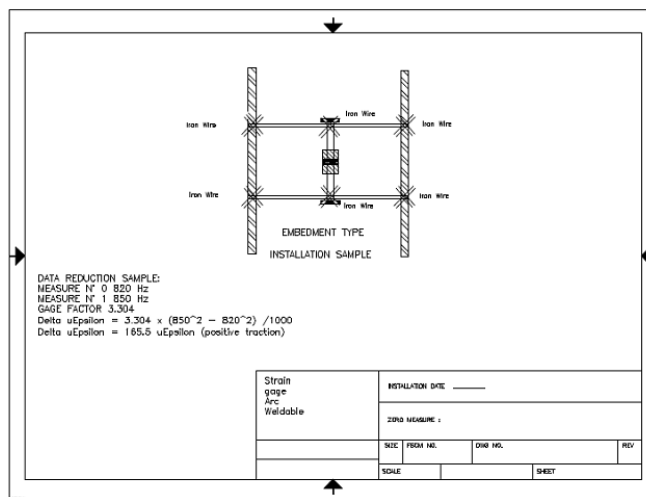

Fig.4 - Estensimetro da annegare (Embedment type) – Schema installazione
Vibrating wire embedment strain gauges are installed directly in the concrete mix, and care has to be taken to avoid applying large forces to the end blocks during installation. The instrument can be installed by tying it to a rebar (Fig. 4) with soft iron wire (without tensioning the wire excessively). It is also possible to cast the strain gauge directly in the concrete mix. Care has to be taken to make sure that the orientation of the instrument will be unaffected by concrete placement.
- If necessary, wrap a layer of self-vulcanizing rubber tape around the strain gauge at a distance of about 3 cm from the electromagnet, in the two places shown in figure 4 (around the tie points). The rubber tape layer serves as a shock absorber, reducing any vibration of the suspension system. Make two loops in the wire, one on either side of the strain gauge, at a distance of about 3 cm from the body of the gauge;